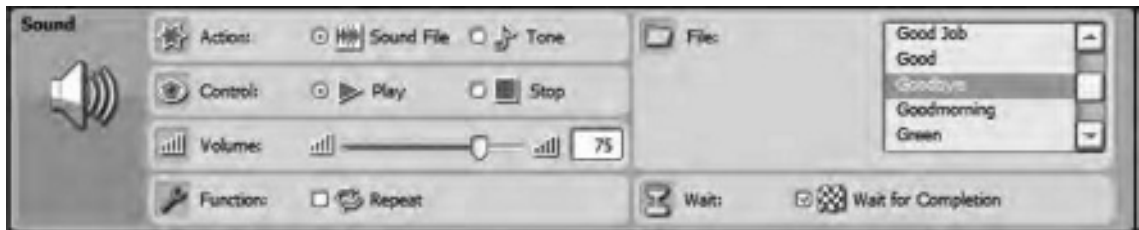

Figure 6-2. The Sound File option allows you to select a sound from the File section.
Select the Sound File option, and take a look at Figure 6-2. See the section called File? Clicking the Sound File option opens the File section; the File section contains a large collection of prerecorded sounds that your bot can play through the Brick's speaker. Click one of the sound files, and if your computer has speakers, you will hear the sound file play. There are over 100 unique sound files that you can select from the list.
■ **Note** If you are using NXT-G 2.0, I'll show you later in the chapter how to use the built-in Sound Editor that allows you to modify existing sounds or create your own! If you follow the instructions carefully, any new sounds you add will appear in the File listing in Figure 6-2.